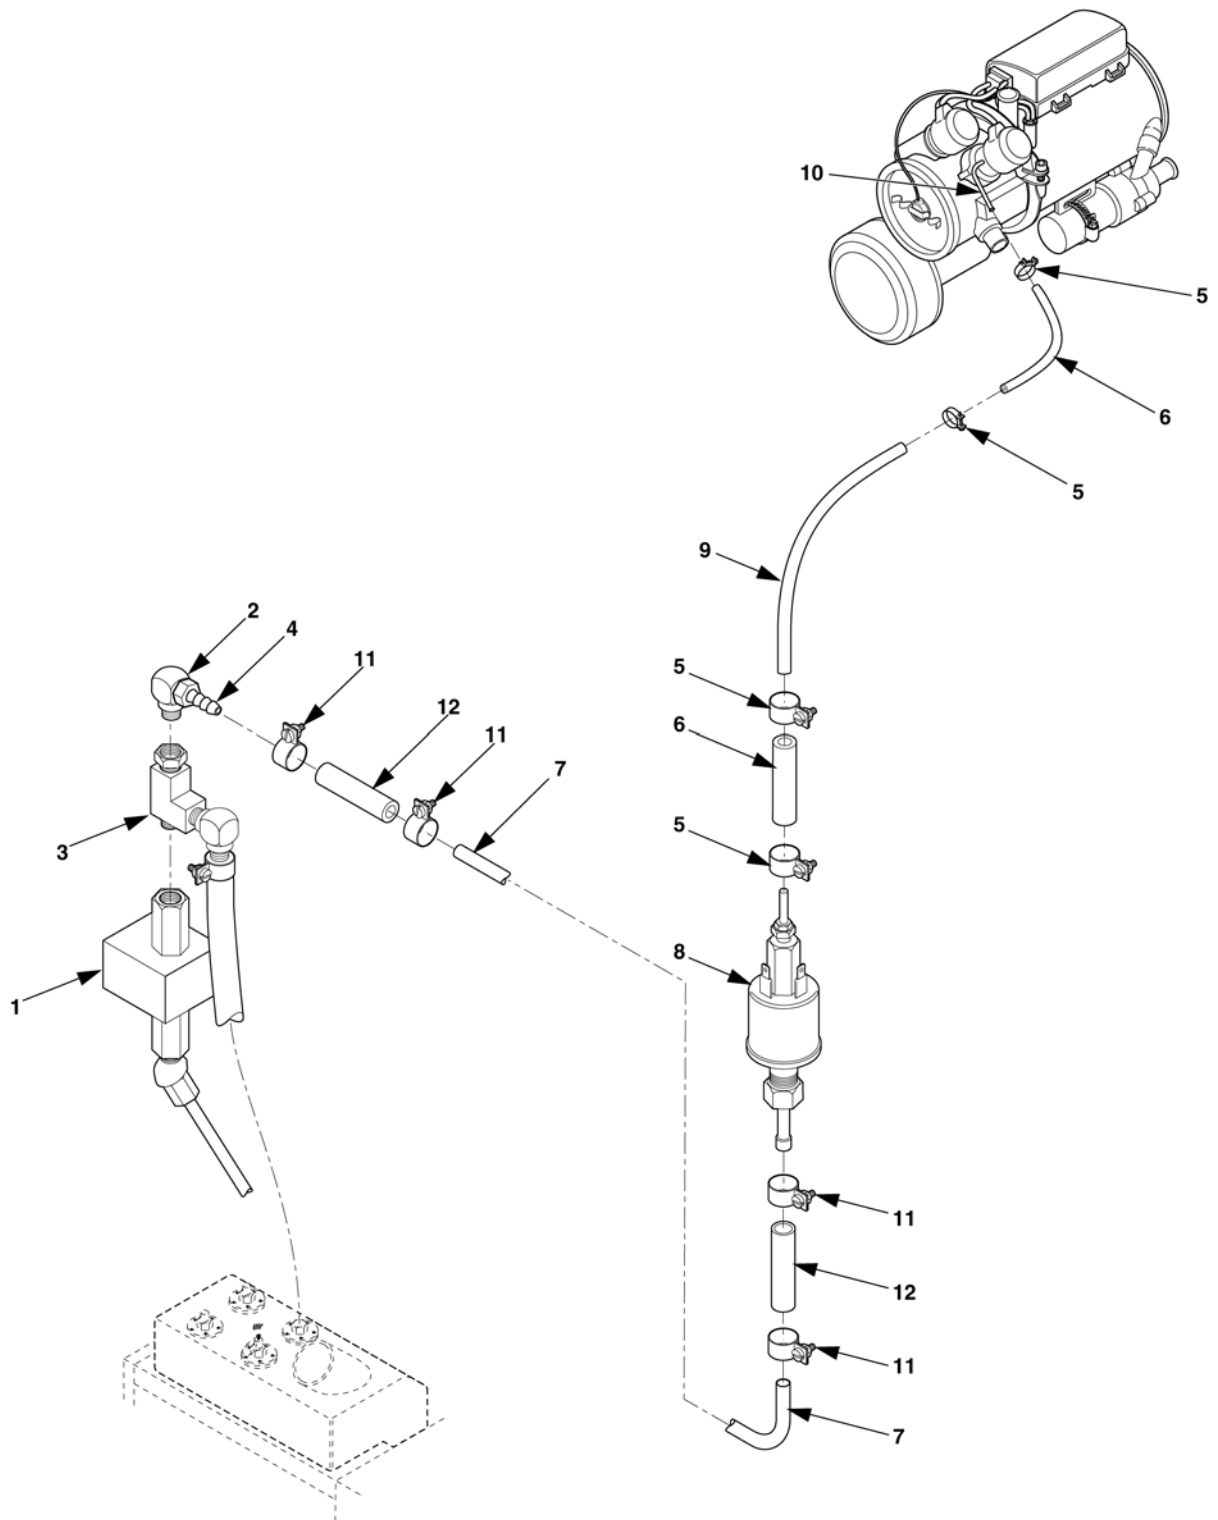
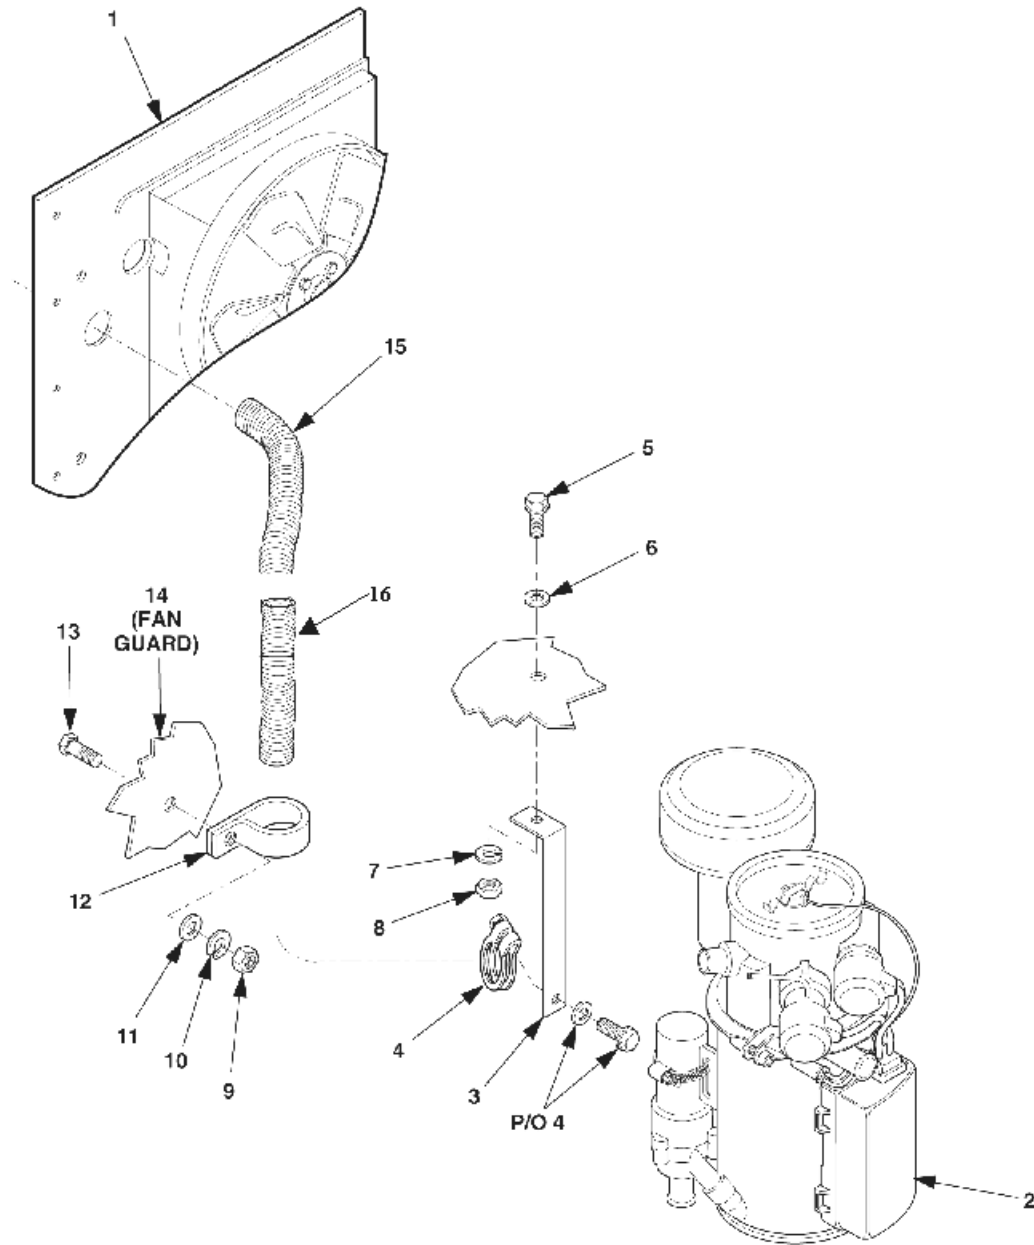

Figure 5-2. Fuel System Assembly.
Figure 5-8. Exhaust Hose and Heater Brace.
9. Attach tee, (3), to generator set primary fuel pump (1), Figure 5-2.
10. Attach the elbow (2), and adapter (4), to tee fitting (3), along with butt splices (12), fuel tubing (7), and clamps (11).
34. Install heater brace (3), Figure 5-8, by using heater brace as a template for location and mark. Drill hole, 5/16" and mount to the inside top of the generator housing using screw (5), flat washer (6), lock washer (7), and nut (8).
35. Install thermal sleeving (16) over exhaust hose (15) and attach one end of exhaust hose (15), to heater (2), using clamp (4). Before attaching clamp, remove the screw from the clamp and insert clamp screw through heater brace (3) and then into the clamp (4).
36. Drill a 1-1/8" diameter hole in rear of front housing (1), Figure 5-8.
37. Install other end of exhaust hose (15), into hole provided in rear of front housing (1). Use sealant provided in kit, around hose and hole to prevent movement. Bend excess hose 90° to the right into front side of housing.
38. Drill a 7/32" diameter hole in the left side fan guard (14).
39. Secure exhaust hose (15) to fan guard (14), using clamp (12), screw (13), flat washer (11), lock washer (10), and nut (9).
40. Install butt splice (6), Figure 5-2, to heater fuel intake (10) using clamp (5). Bend item (10) to approximately 90° (only if it interferes or touches the door when closed) making sure not to kink the metal tube so it pinches off the fuel supply.
41. Install butt splice (6), Figure 5-2, to fuel pump (8) using clamps (5). Install tubing (9), from butt splice (6) on heater fuel intake to butt splice (6) on fuel pump using clamps (5).
42. Attach butt splices (12) to fuel pump and to adapter (4), using clamps (11).
43. Install tubing (7), between butt splices (12) from fuel pump to adapter (4), using clamps (11).